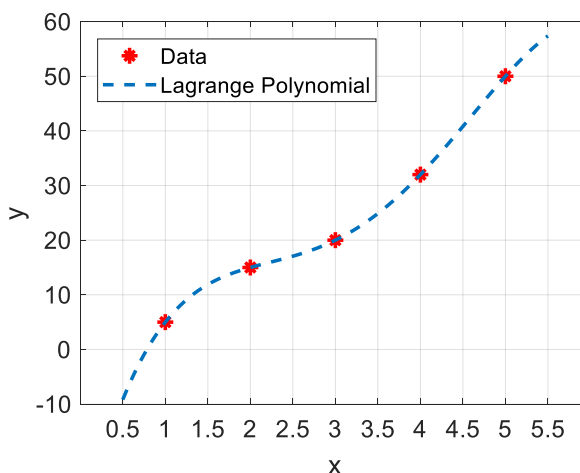
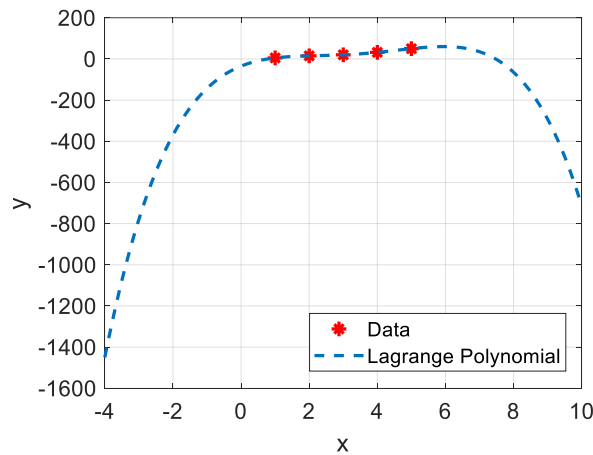

Figure 1. Using Lagrange polynomial to fit the data
Figure 2: Using a Lagrange polynomial to fit the data, showing wild behaviour outside the data range!
- Using the same data set as Figure 1, the associated Lagrange polynomial diverges far away from the true trend outside of the data range, as shown in Figure 2: